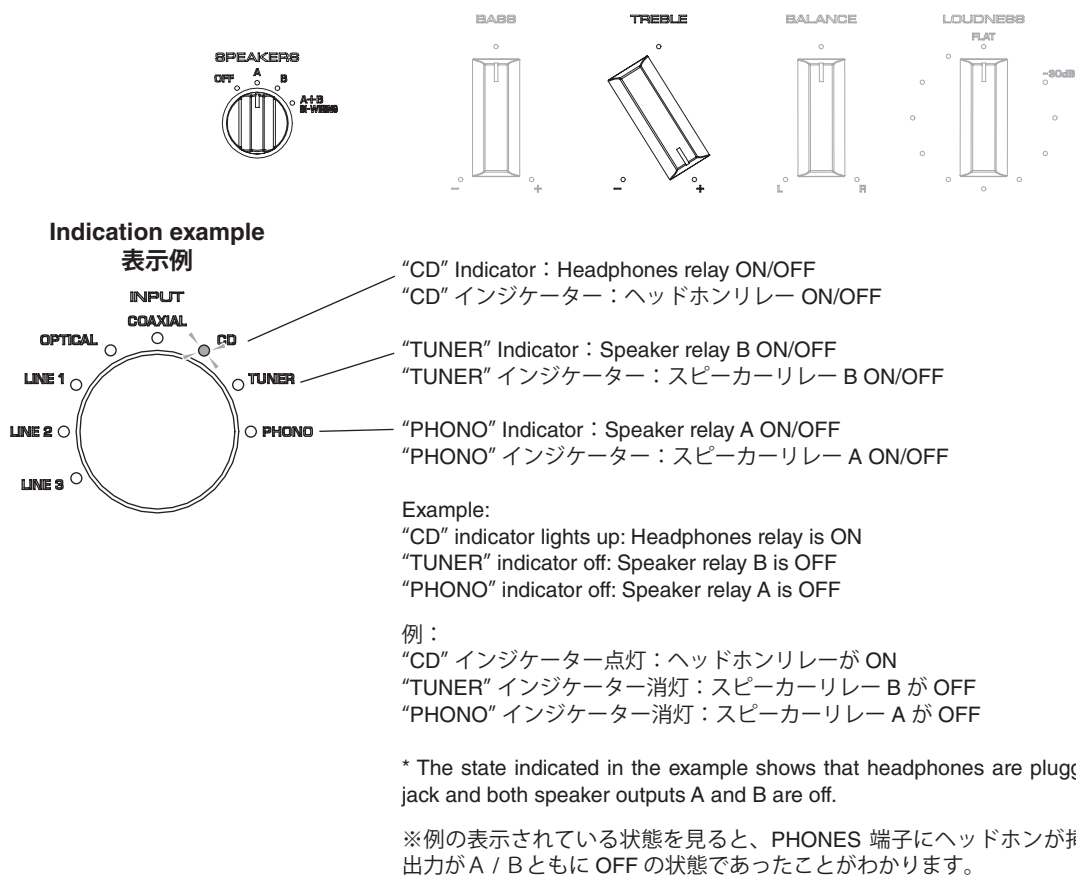

Fig. 13
Turn the "TREBLE" knob to "+" and the "SPEAKERS" knob to "A". (Fig. 13)
The ON/OFF states of speaker relays A/B (RY101 and RY102 on MAIN (1) P.C.B.) and the headphones relay (RY103 on MAIN (1) P.C.B.) when a protection function is activated are indicated using the "INPUT" indicators. (Fig. 13)
つまみを "A" の位置にします。(Fig. 13)
"INPUT" インジケータを使って表示されます。(Fig. 13)